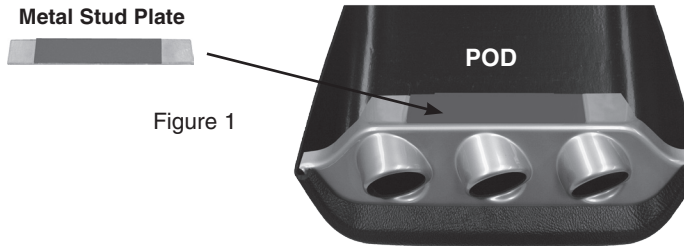

Figure 1
2. Bolt the metal stud plate to the pod (**Figure 1**)
3. Attach the double sided tape to the bottom bracket (**Figure 1**). **DO NOT REMOVE TAPE LINER FROM DASH SIDE YET.**